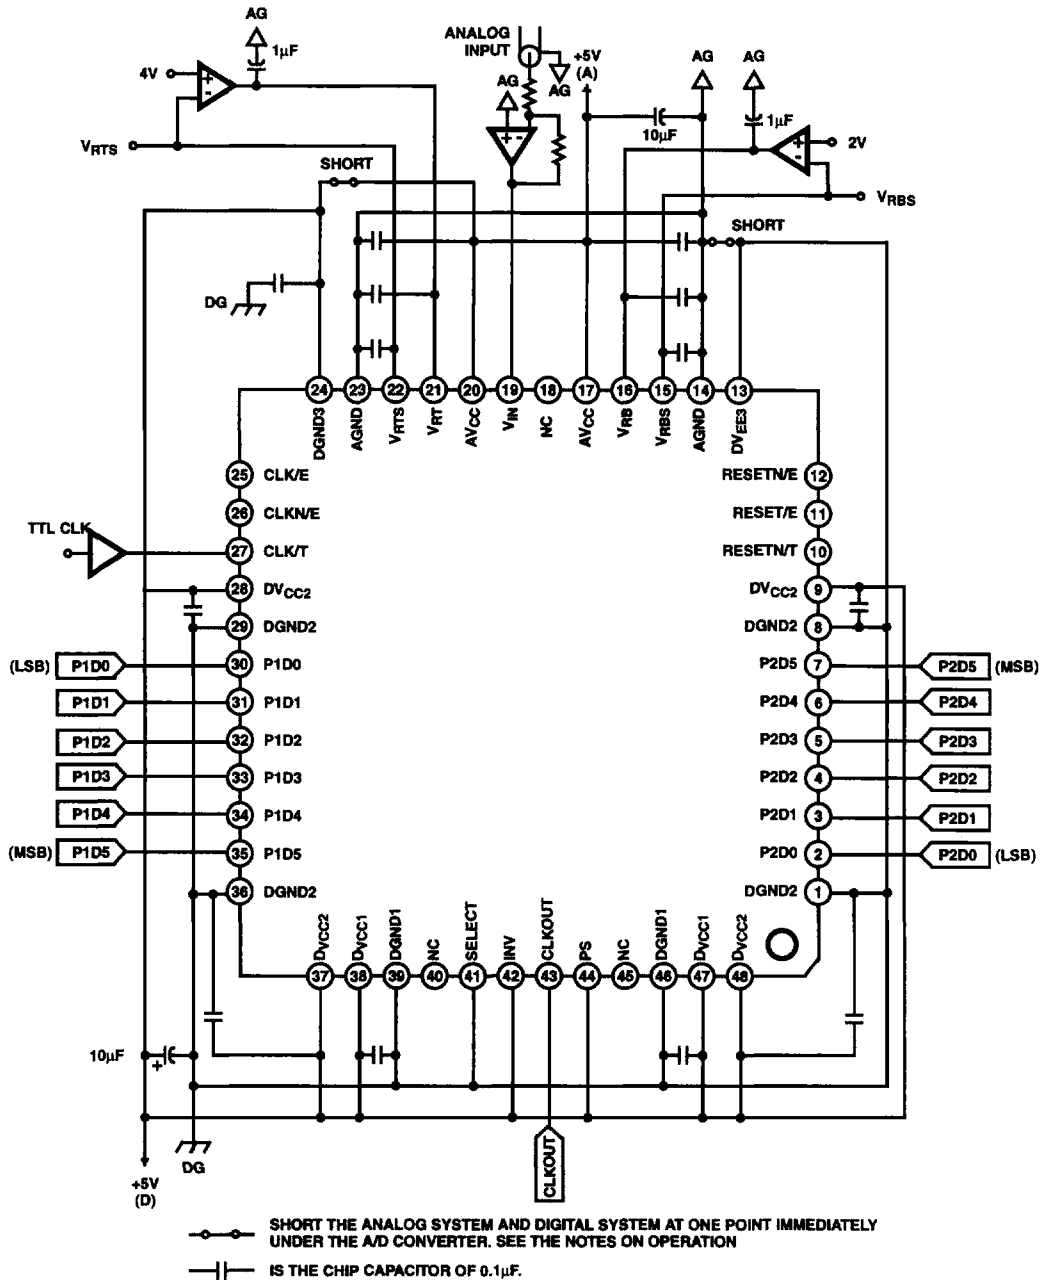

FIGURE 25. STRAIGHT MODE TTL I/O (WHEN A SINGLE POWER SUPPLY IS USED)
- The offset for residual is generated each for the reference voltage pins VRT and VRB. When the offset voltage has no influence on the IC operation, the voltage should be applied to the VRT and VRB pins directly, keeping the VRBS pin open. When the reference voltage is to be supplied to these pins precisely, form the feedback loop circuit with VRT and VRB as a force pin and adjust the offset voltage to be 0V. See Figure 25 for details.